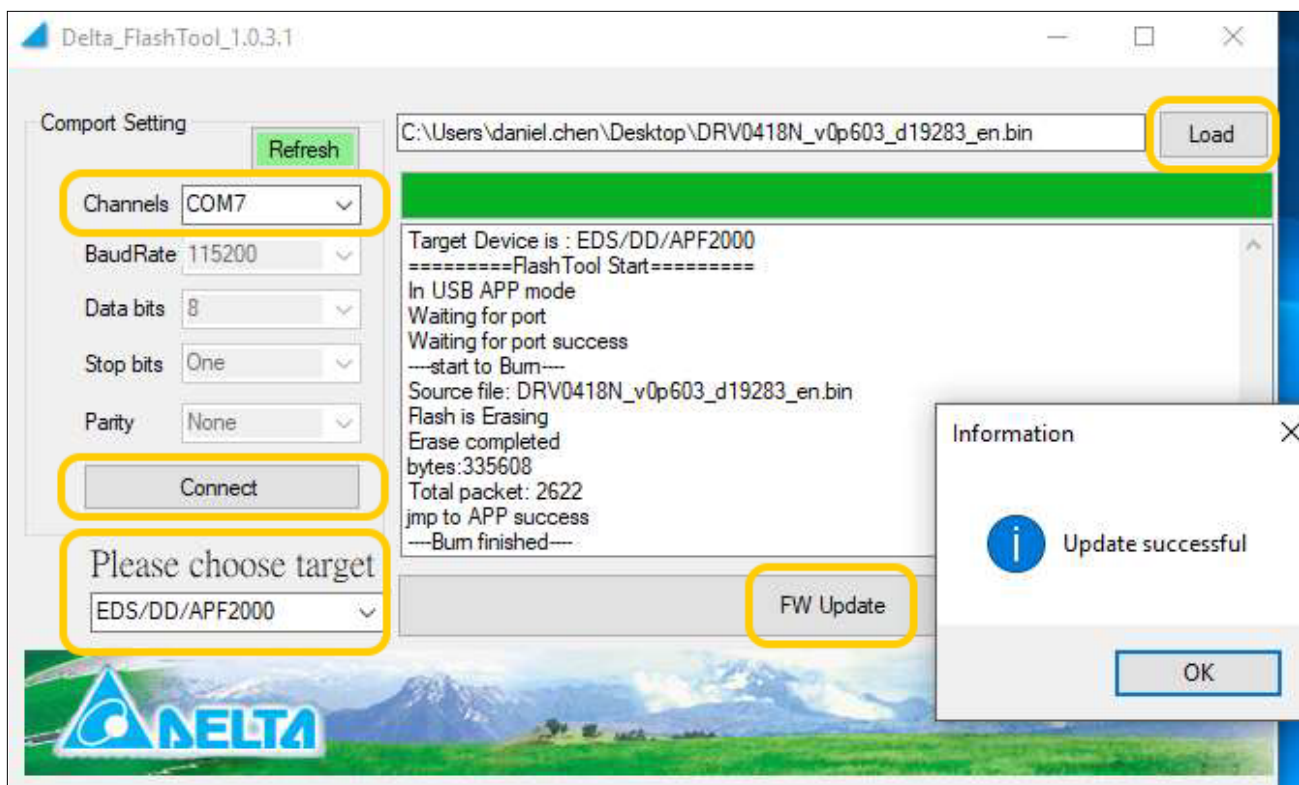

Figure 6: Delta FlashTool operating window.
3. Launch the Delta_FlashTool software on the PC (reference Figure 6).